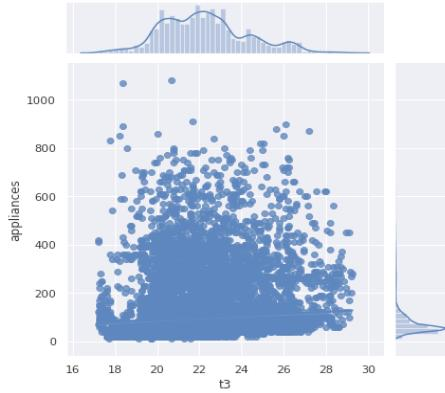

Fig 29
- Between Appliance and T3, as shown in fig 29